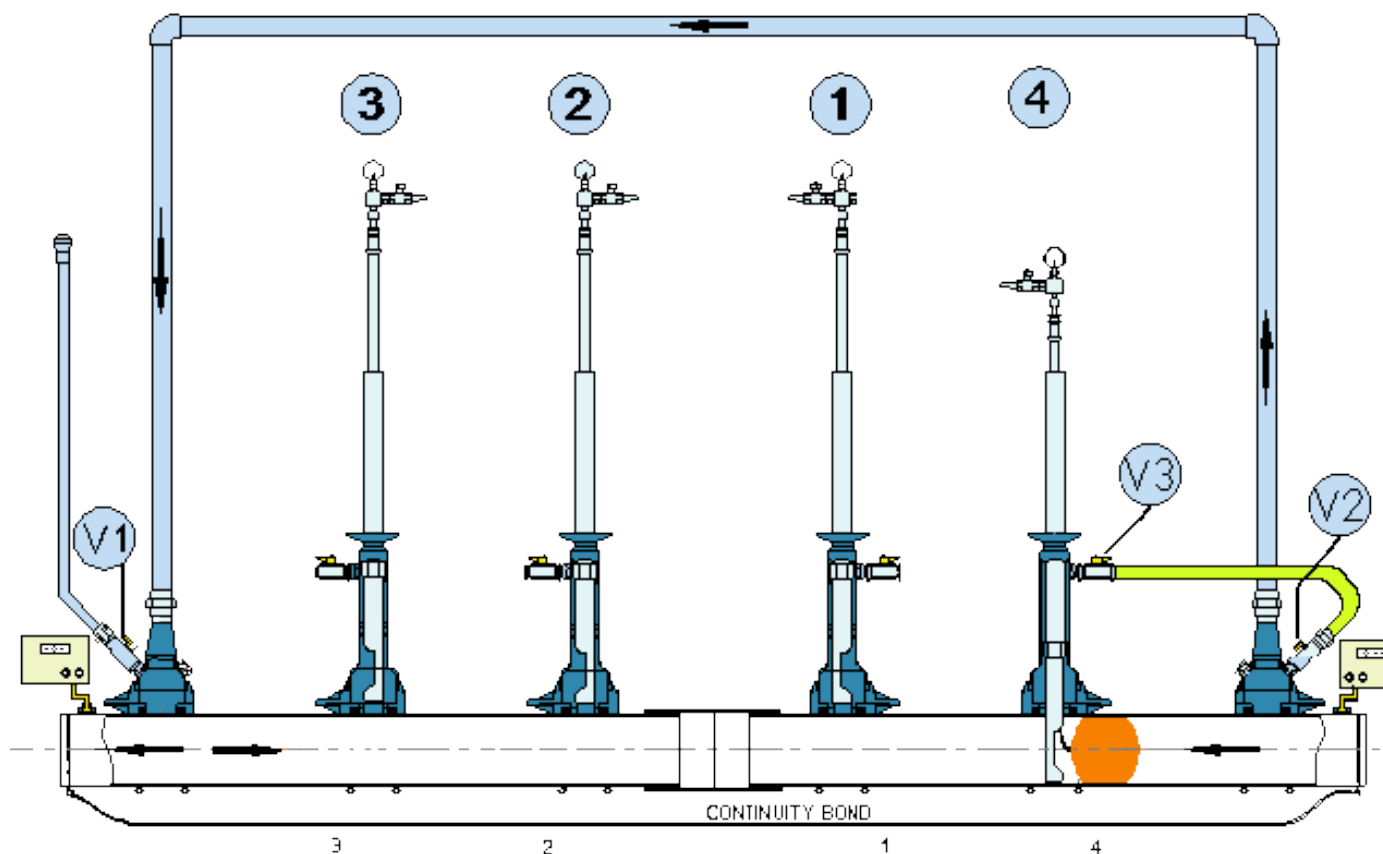

Figure 69- Deflation of Bag 3 (Primary)
17. Deflate and remove bag 4. See Figure 69.